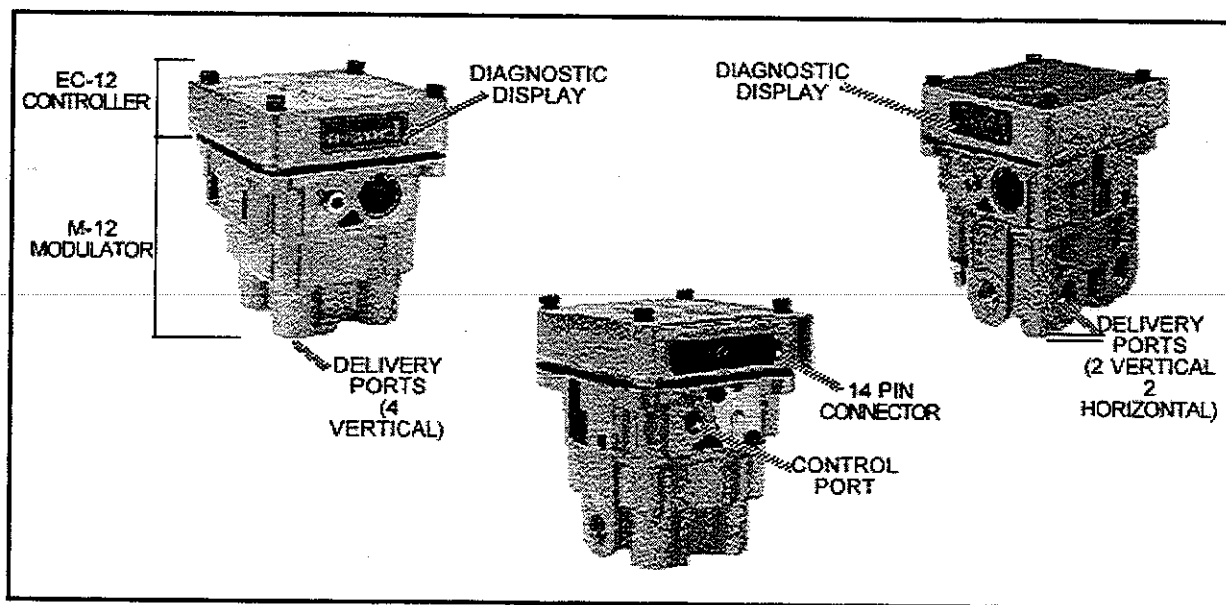

Figure 1—MC-12 Modulator Controller Assembly
- See Figure 1—MC-12 Modulator Controller Assembly.